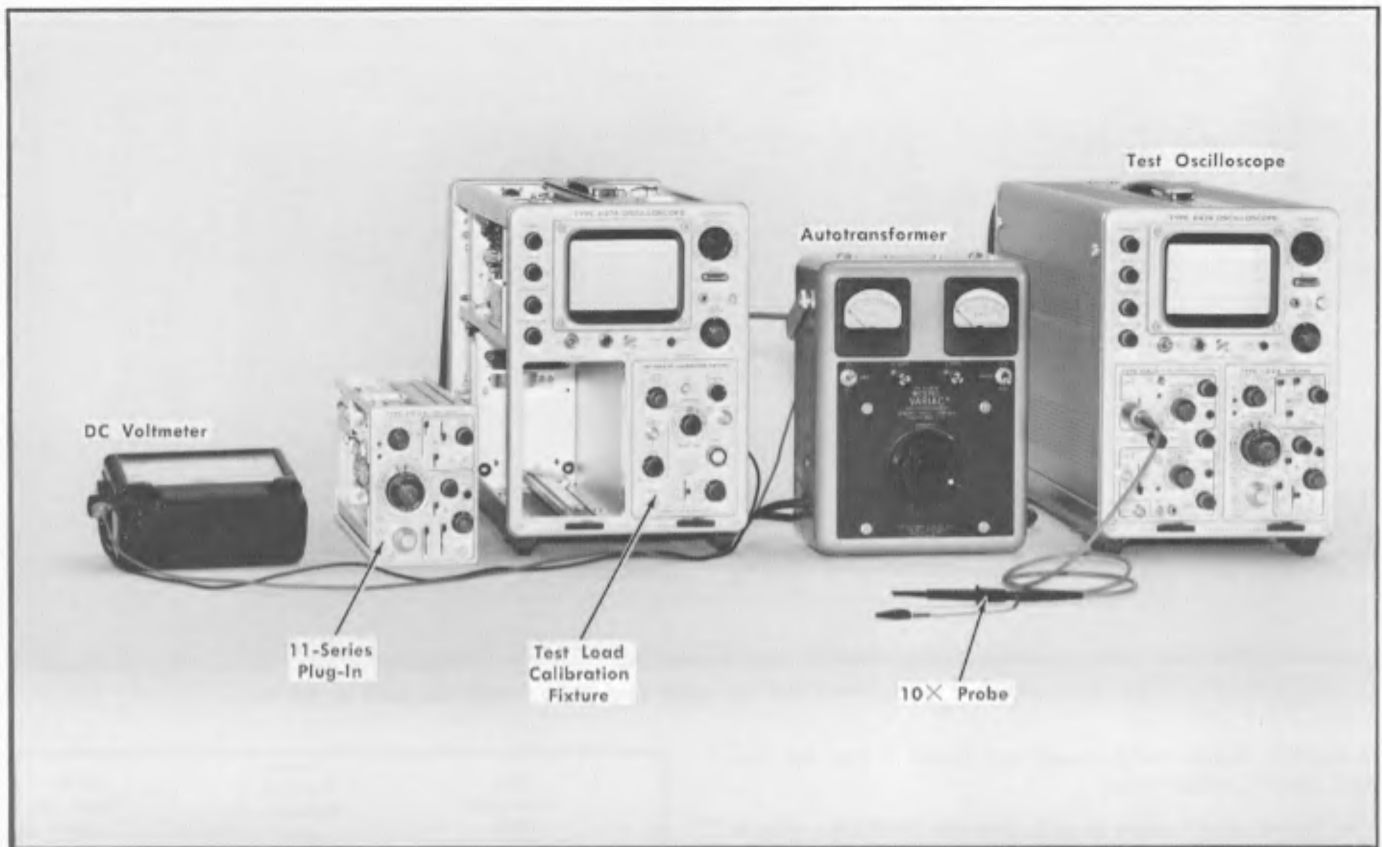

Fig. 6-6. Initial test equipment setup for steps 7 through 9.
①
- Test equipment setup is shown in Fig. 6-6.